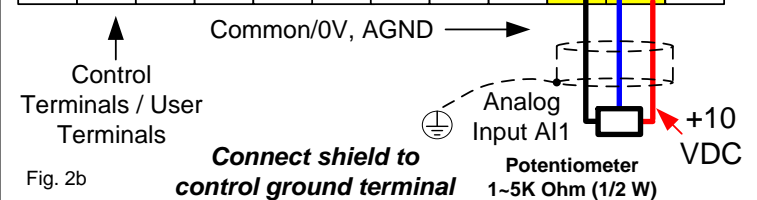

Fig. 2b
- Remove the protective covers (See E510 Manual) and make the connections as shown below in Fig. 2b.